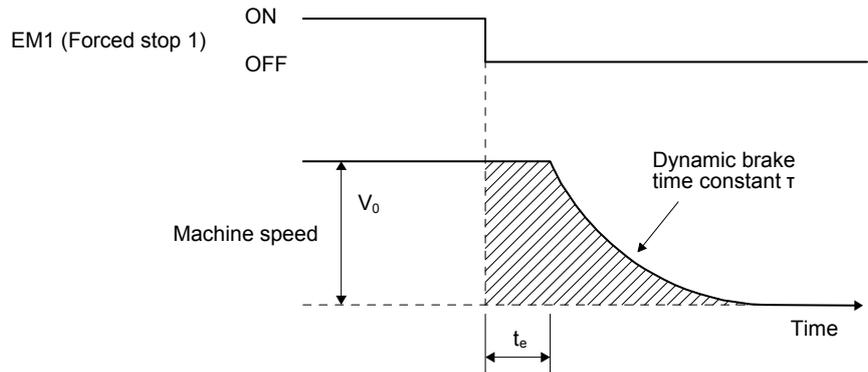

Fig. 18.2 Dynamic brake operation diagram
Fig. 18.2 shows the pattern in which the servo motor comes to a stop when the dynamic brake is operated. Use equation (18.1) to calculate an approximate coasting distance to a stop. The dynamic brake time constant  $\tau$  varies with the servo motor and machine operation speeds. (Refer to (1) (b) in this section.)